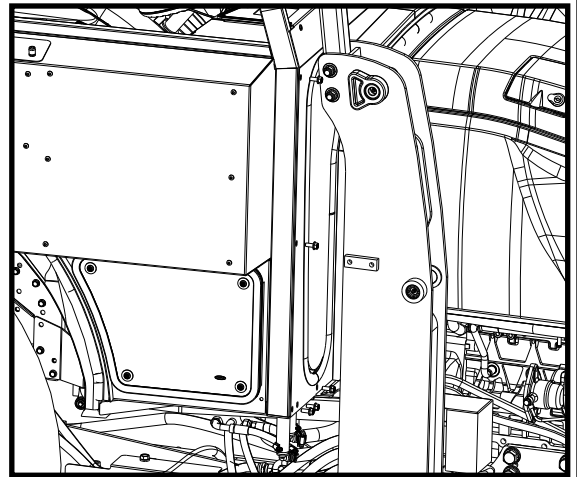

Figure 6.7: Side Frame to Cowl Bolts
- 6.7 Fasten the side frame to the side of the cowl (see Figure 6.7). Leave hardware loose.